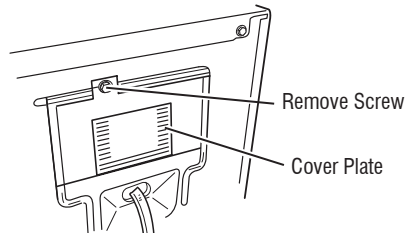

Figure 3 - Remove the cover plate (appearance may vary)
2. Remove the cover plate from the top right corner of the back of the dryer. See figure 3.
2. Remove the cover plate from the top right corner of the back of the dryer. See figure 3, page 11.